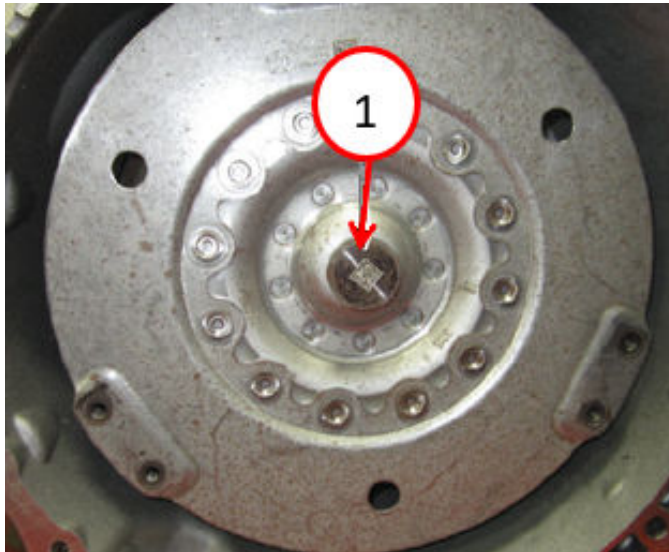

Fig. 55
85. Install the torque converter Fig. 55. Refer to the detailed service procedures available in DealerCONNECT/ Service Library under: Service Info> 21 - Transmission and Transfer Case/Automatic/Torque Converter/ Installation.